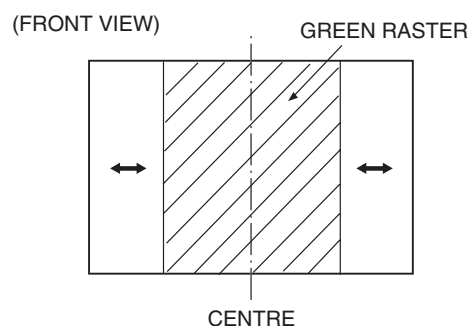

Fig. 3
7. Adjust the gap between two lugs so that the GREEN RASTER will come into the centre of the screen. (Fig. 3)